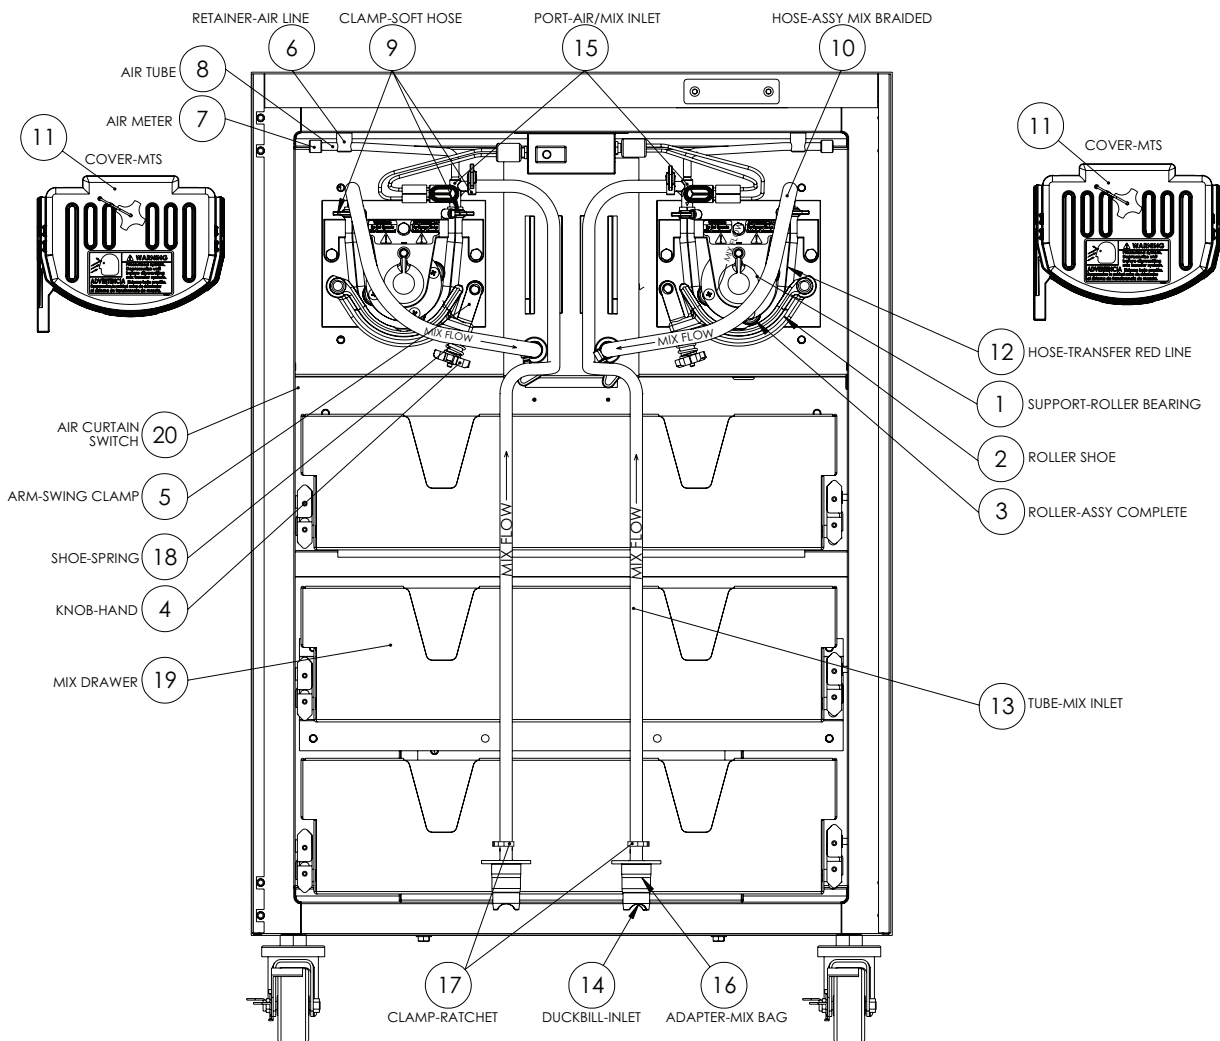

Figure 9-6 MTS
15. Refer to figure 9-6. Install the MTS hose assembly by first placing the clamp next to the braided hose, above the roller bearing support on the right side and push hose into slot. Place the transfer hose under the rollers. While holding the bag adapter stretch the hose around the roller bearing support and push the hose into the slot.
16. Check to ensure the transfer hose is straight and centered on the roller assembly by observing the locating line. The line should be in the same position at the inlet and outlet guides of the roller bearing support, as shown in figure 9-6.